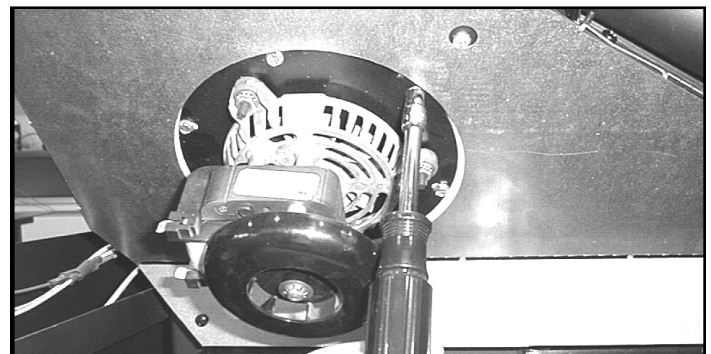

Figure 25.4
- There is a removable plate on the exhaust blower. Using a 1/4" socket or short standard screwdriver loosen the 6 screws in the keyhole shaped holes and rotate the plate (**Figure 25.4**).